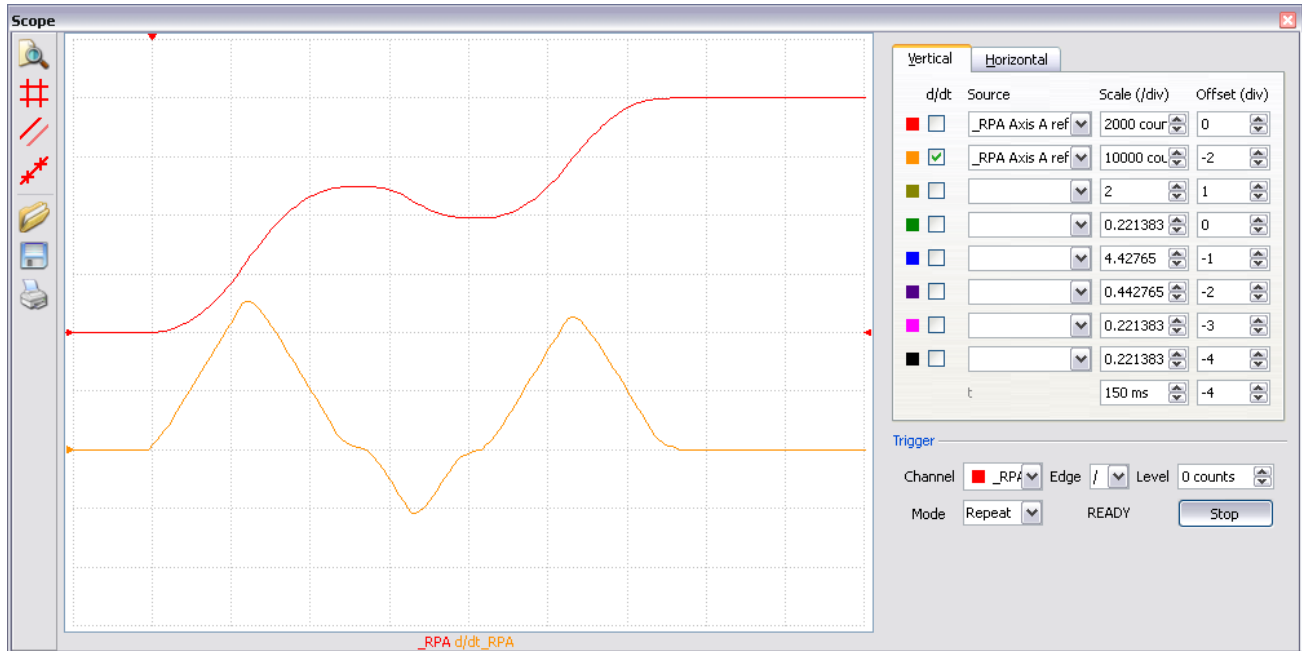

Figure 6.4: Position and Velocity vs Time (msec) for Motion 3 with IT 0.1
Figure 6.4 demonstrates the use of motion smoothing (IT) on the velocity profile in this mode. The jerk in the system is also affected by the values set for AC and DC.